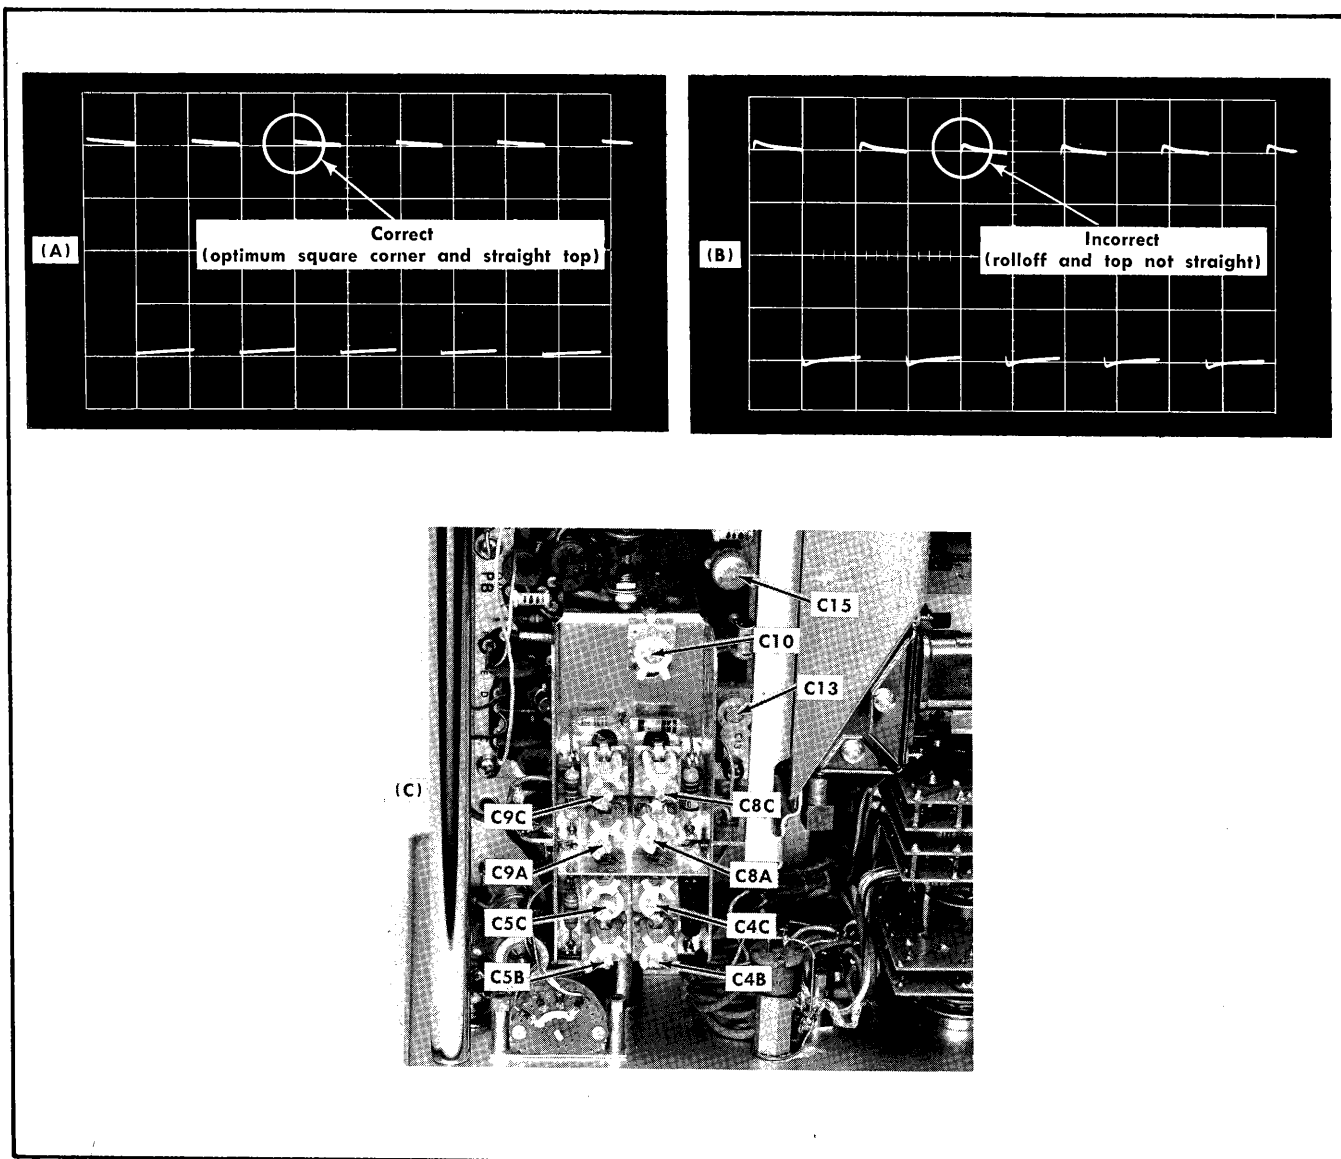

Fig. 6-17. Location of adjustments and typical response for the VOLTS/CM compensation.
- e. Push in the V/CM ÷ 100 knob. Adjust C15 and C13 (Fig. 6-17) for optimum square wave response. C15 is adjusted for minimum aberrations and C13 for optimum flat top. See Fig. 6-17A. (The slope on the top and bottom of the square wave will not be flat, because the amplifier stages are not DC coupled).